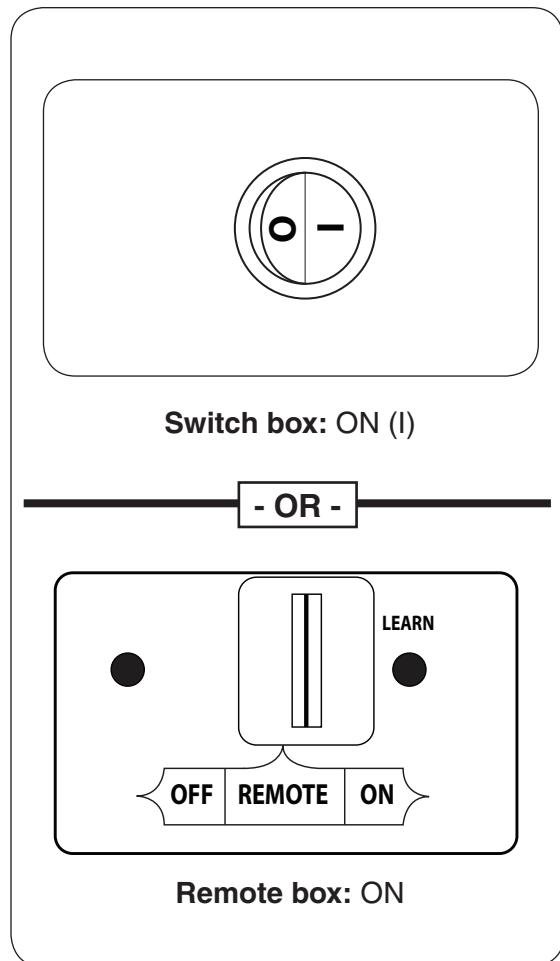

Fig. 21-1 Manual lighting
- Switch Box Models:** Locate the ON/OFF switch at the front of the switch box. Press the switch to the **ON (I)** position. See Fig. 21-1.
Remote Box Models: Locate the 3-position switch on the remote receiver (see Fig. 21-1), and slide the switch to the **ON** position.